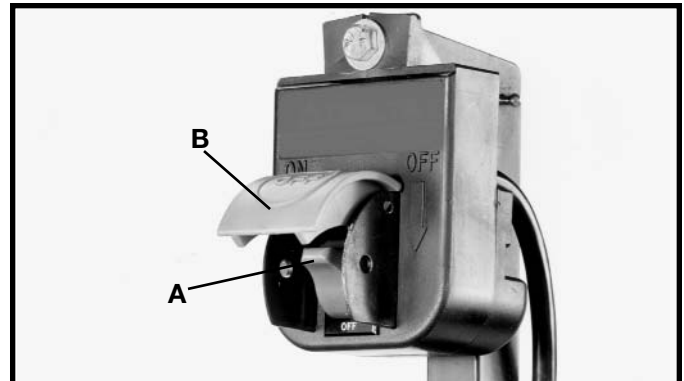

Fig. 31
1. The on/off switch is located underneath the switch shield (B) Fig. 31. To start the jointer, move switch (A) up to the "ON" position.